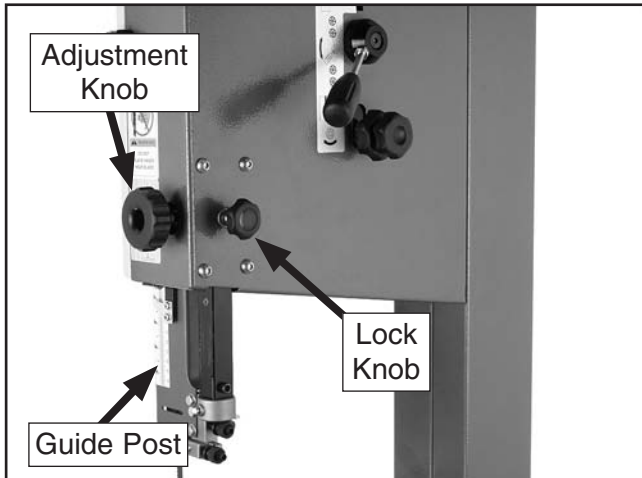

Figure 37. Guide post controls.
The guide post, shown in **Figure 37**, connects the upper blade guide assembly to the bandsaw. The guide post allows the blade guide assembly to move up or down via a rack and pinion. In order to cut accurately, the blade guide assembly must be no more than 1" from the top of the workpiece at all times—this positioning provides the greatest support to the blade.
2. Loosen the guide post lock knob shown in **Figure 37**.